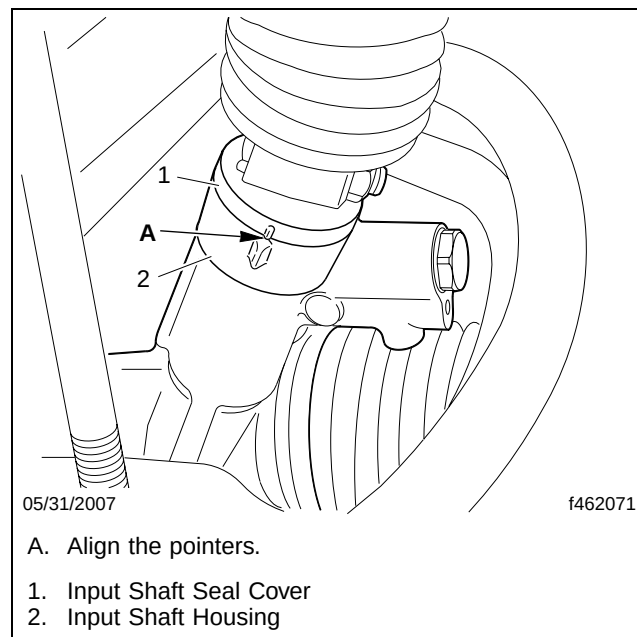

Fig. 12, Pointer Alignment
- 40.2 Align the pointers on the input shaft seal cover and the input shaft housing. See **Fig. 12**.
- 44.2 With the wheels on turnplates, center the rack travel by aligning the timing pointers on the input shaft seal cover and the input shaft housing. See **Fig. 12**.